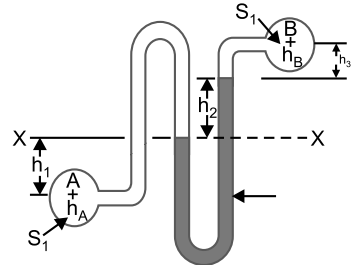

Fig. 15
- Q. 73.** Two pipe lines at different pressures, p_A and p_B , each carrying the same liquid of specific gravity S_1 , are connected to a U-tube with a liquid of specific gravity S_2 resulting in the level differences h_1 , h_2 and h_3 as shown in the Fig. 15. The difference in pressure head between points A and B in terms of head of water is
Explanation: Refer to Fig. 15